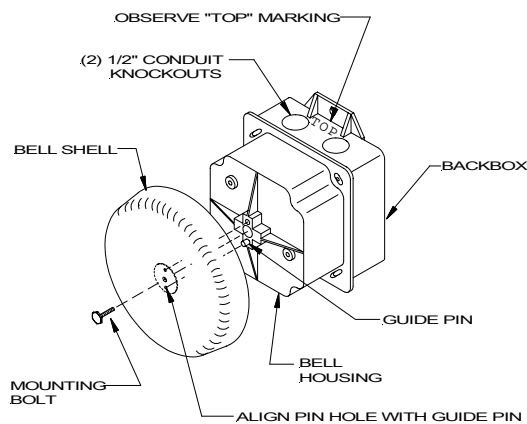

Figure 1: Removal of Bell Shell
1. Modular Connection - Figure 1 & 2: